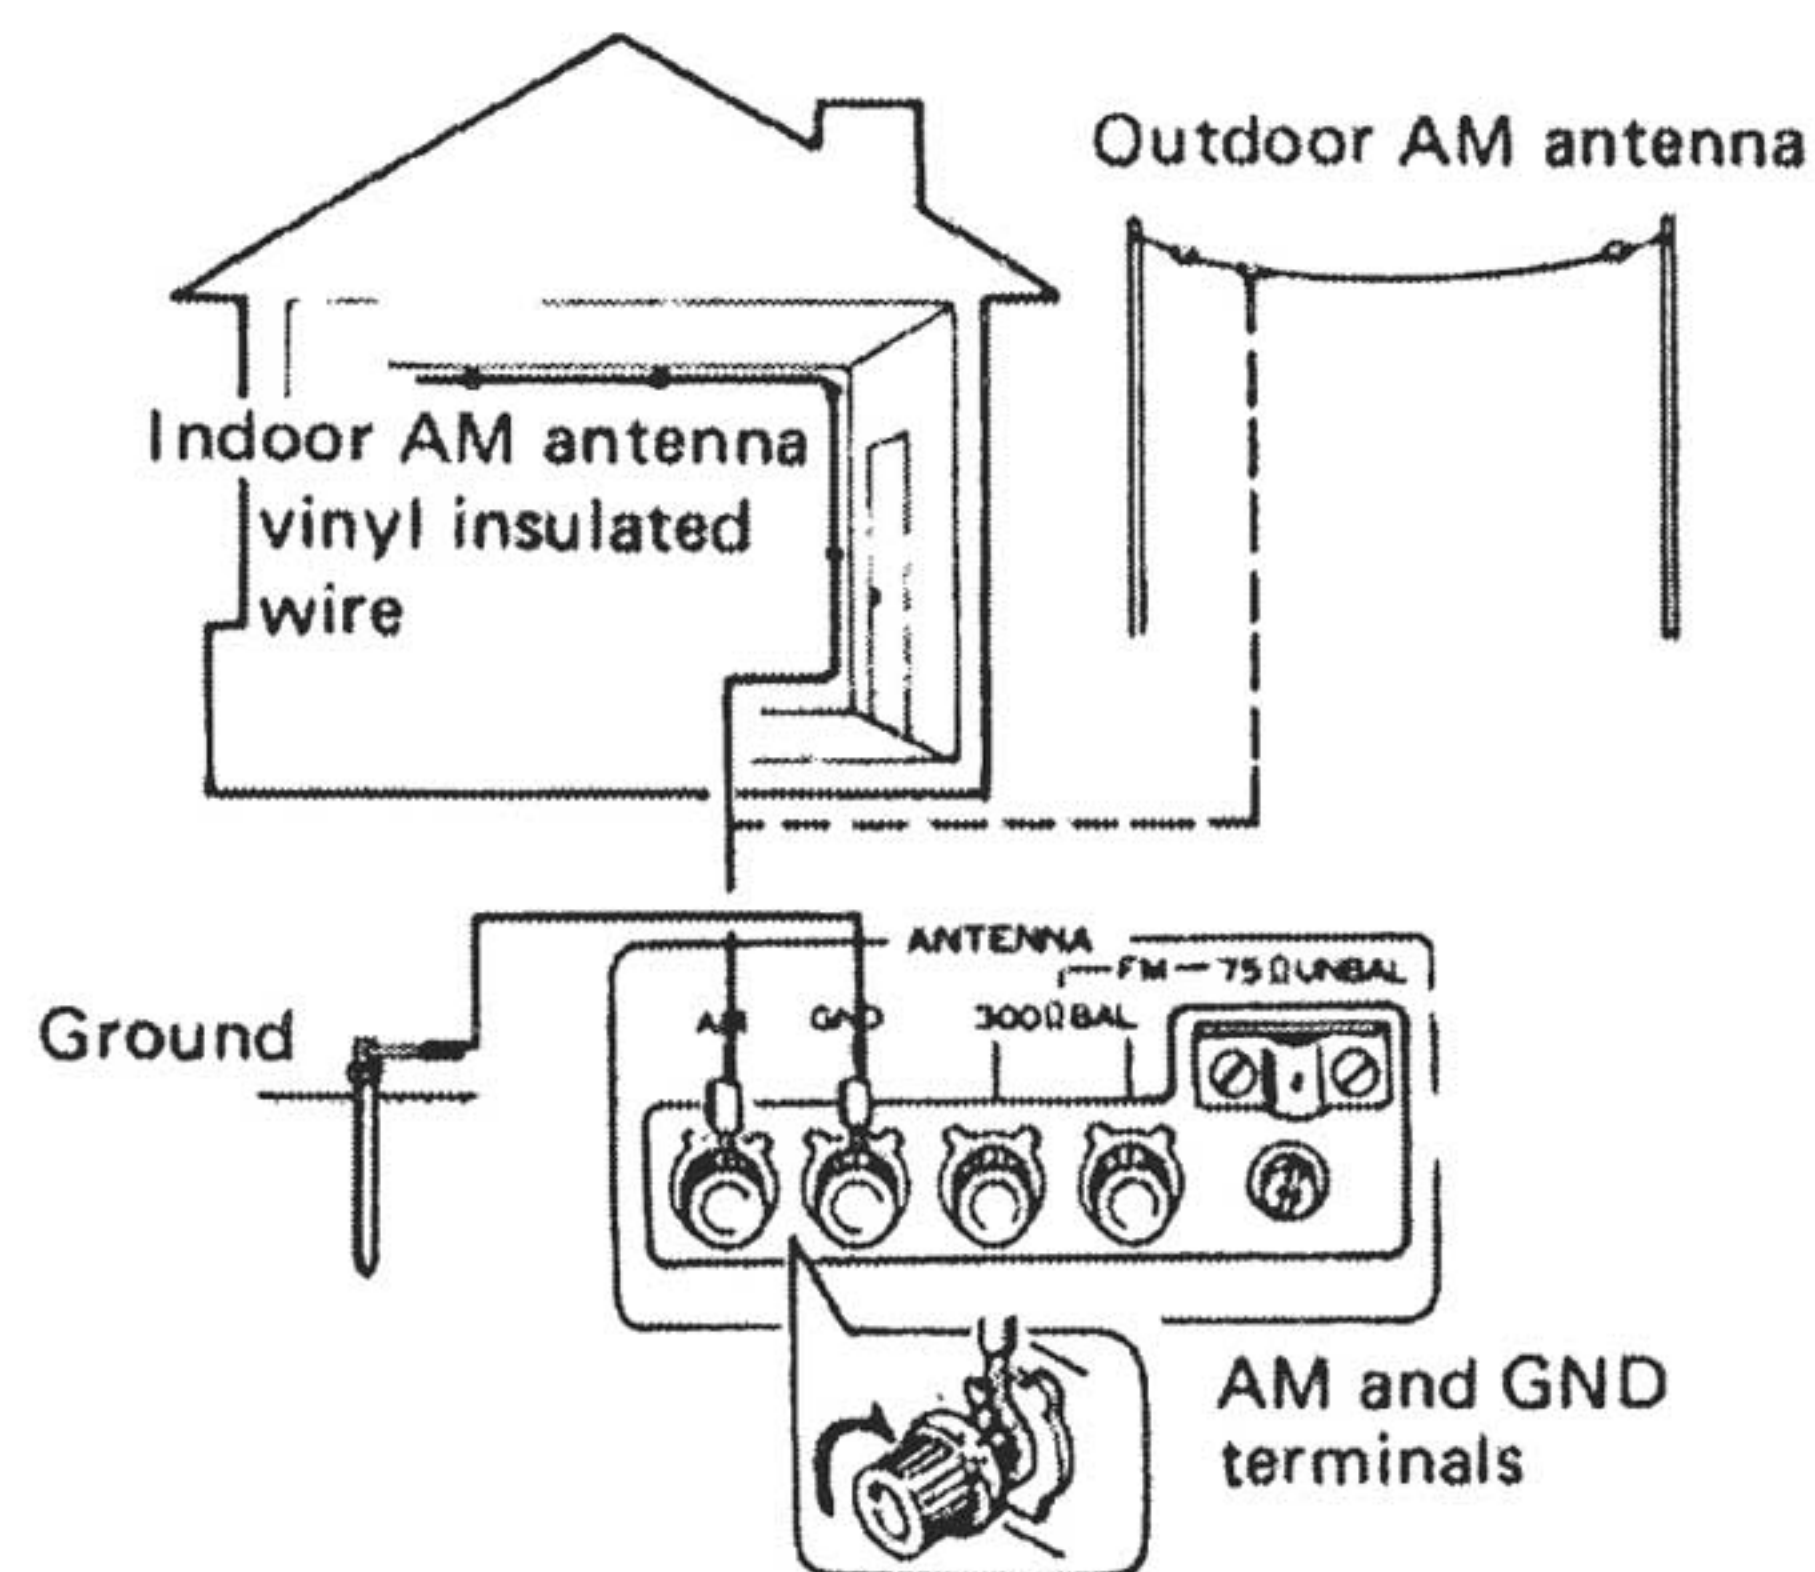

Fig. 6
- In cases when the bar antenna is insufficient for adequate reception, an indoor AM antenna can be made from a length (5 to 6 meters) of vinyl insulated wire. As shown in Fig. 6, connect one end of the wire to the AM antenna terminal and suspend the free end from a wall or ceiling at as high a location as possible.
- If reception is still difficult with an indoor antenna, use vinyl insulated wire to erect an outdoor AM antenna between two supports as shown in Fig. 6.
From aspects of both safety and reduced noise, if possible employ a ground as shown in Fig. 6. Connect the ground lead to the GND terminal of the TX-9500II. Consult a qualified electrician regarding proper grounding techniques.